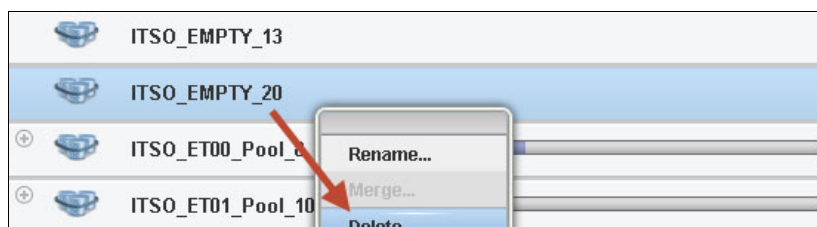

Figure 11-30 Delete one pool of the pool pair
3. Choose one of the pools from the recently created pool pair to delete, as shown in Figure 11-30.